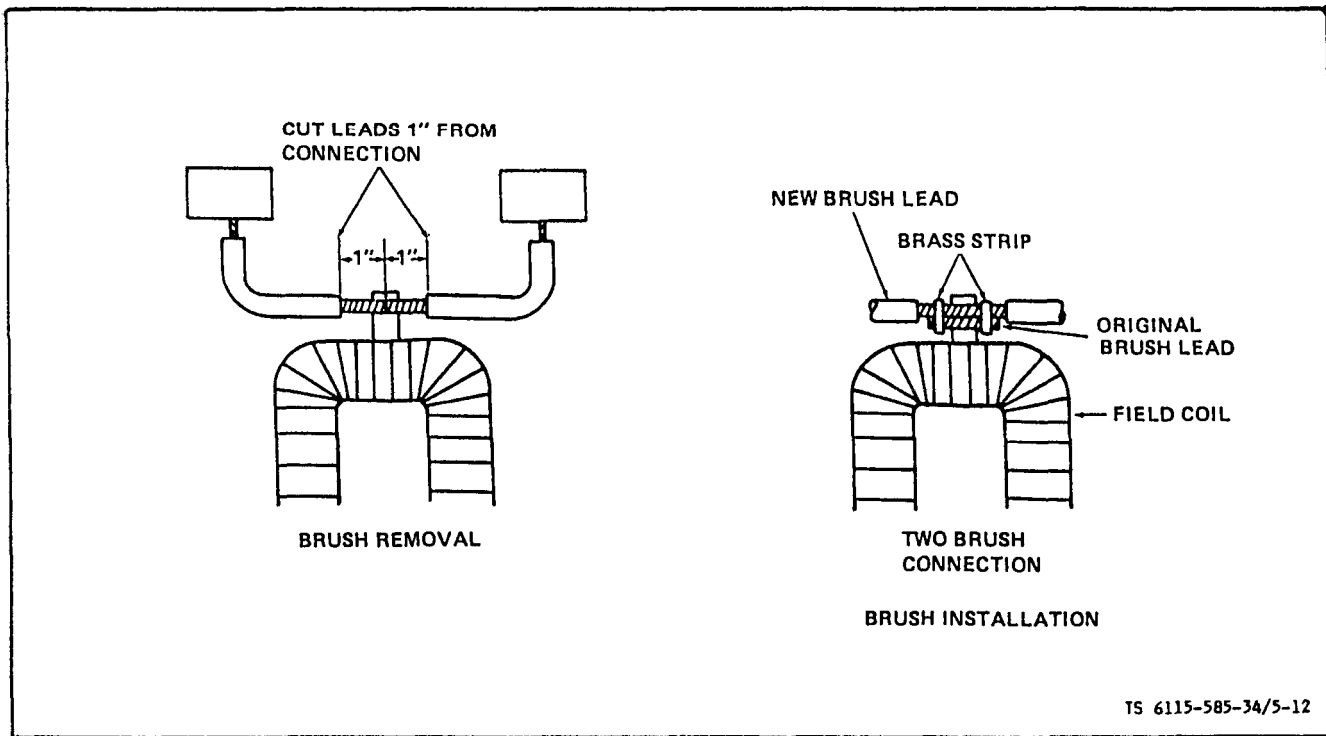

Figure 5-12. Brush Replacement STYLE I Starter Only
- (1) Soak sleeve bearing (36) in SAE 10 oil for 15 minutes before assembly of stater.
- (2) Press bearing (36) into pinion housing (28).
- (3) Slide drive assembly (35) onto the armature shaft. Slide stop and position lock ring (34) in its groove on the armature shaft. Pull step over lock ring. A bearing puller tool may be required.
- (4) Install thrust washer (27) on the end of the armature shaft. Slip yoke (32) onto the drive assembly (35) and install both in pinion housing (28). Install pin (31) in pinion housing to hold yoke (32) in place.
- (5) When brushes (26) are excessively worn, cut each brush lead 1 inch from the welded connection (see figure 5-12). Install new brush as follows:
- (b) Position the new brush lead next to the tinned section of the original brush lead. Install and crimp the brass strip connectors (that are supplied with new brush) around both leads to hold the brush in place. See figure 5-12.